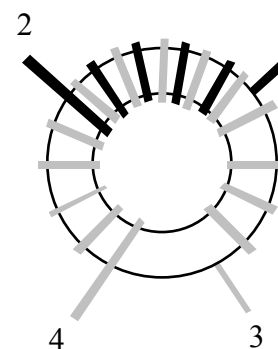

Figure 6-18
□ T7 is a toroidal transformer wound on a 3/8" (9.5 mm) diameter ferrite core (dark gray, FT37-43). T7's orientation and windings will appear similar to Figure 6-18. Wind T7's 3-4 winding first, using 20 turns of red enamel wire (20", 51 cm). (The drawing shows 14 turns.)
□ Install T7 as shown by its component outline near the front-right corner of the board, with the windings oriented as shown in Figure 6-18. Pull the leads taut on the bottom and solder.